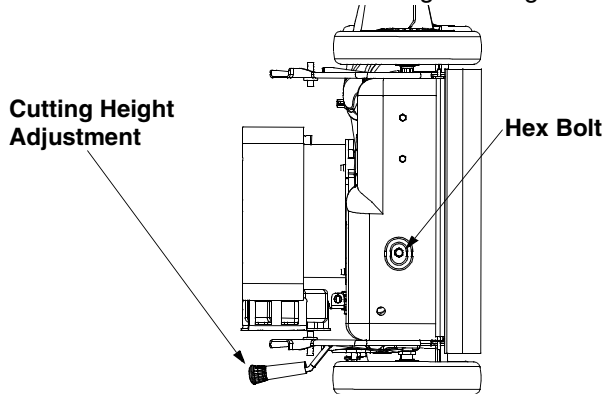

Figure 20
- Remove hex bolt from the rear of unit holding the transmission to the mower housing. See Figure 20.